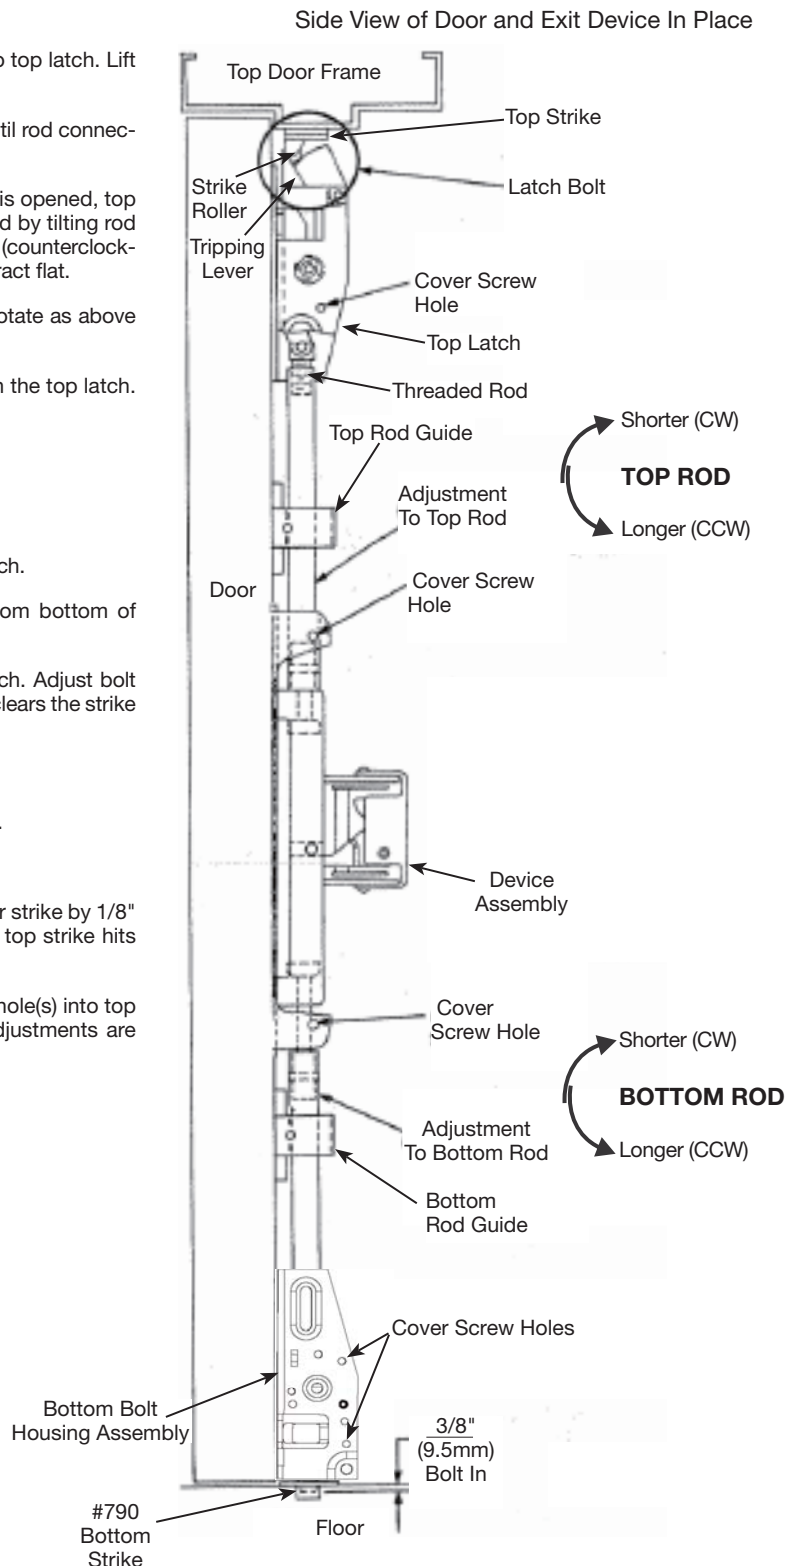

Figure 13: Installing & Adjusting Rods
1. Install rods as shown in Figure 13. Thread top rod into top latch. Lift rod to fully retract top latch bolt.